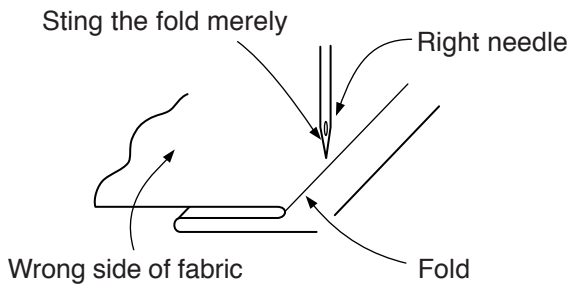
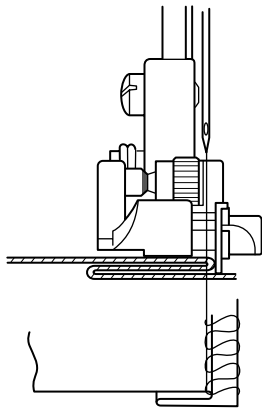

Fig.1
Fig.2
3. Gathering: Place 2 pieces of fabric right side together (fig. 2). The fabric on the bottom will be gathering. For best results, do a trial sewing. Make sure the bottom piece is shortened in half by gathering. (Results will differ depending on the type of fabric and differential feed ratio.)
3. Fold the cloth as in Fig. 1 and iron lightly.
4. Set the position of the cloth guide, turning the adjusting screw until the needle just pierces the fold of the cloth (Fig. 1, Fig. 2).